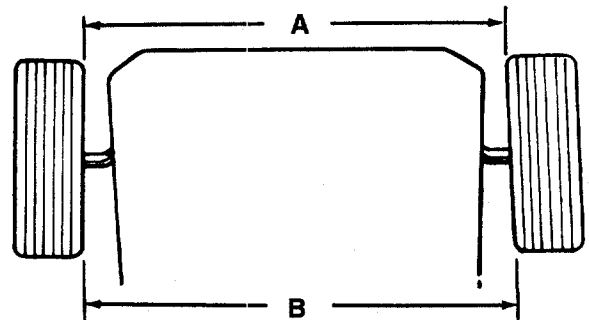

FIGURE 8.
2. Adjust the tie rod in or out until the wheels toe-in approximately  $1/8"$  (Dimension "A" should be approximately  $1/8"$  less than dimension "B"). See figure 8.